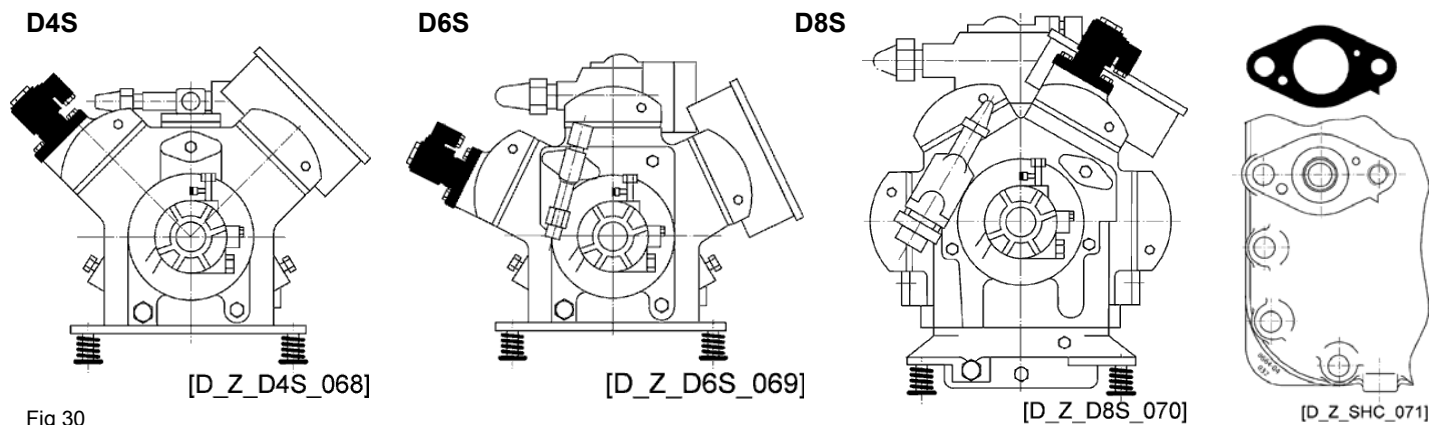

Fig 30
- 1x Gasket for valve flange (see Fig. 30)
Since capacity control devices may only be applied to specific banks of 4, 6, and 8 cylinder compressors, the unloaded start device is factory mounted on one of the other cylinder banks (as shown in Fig. 30).